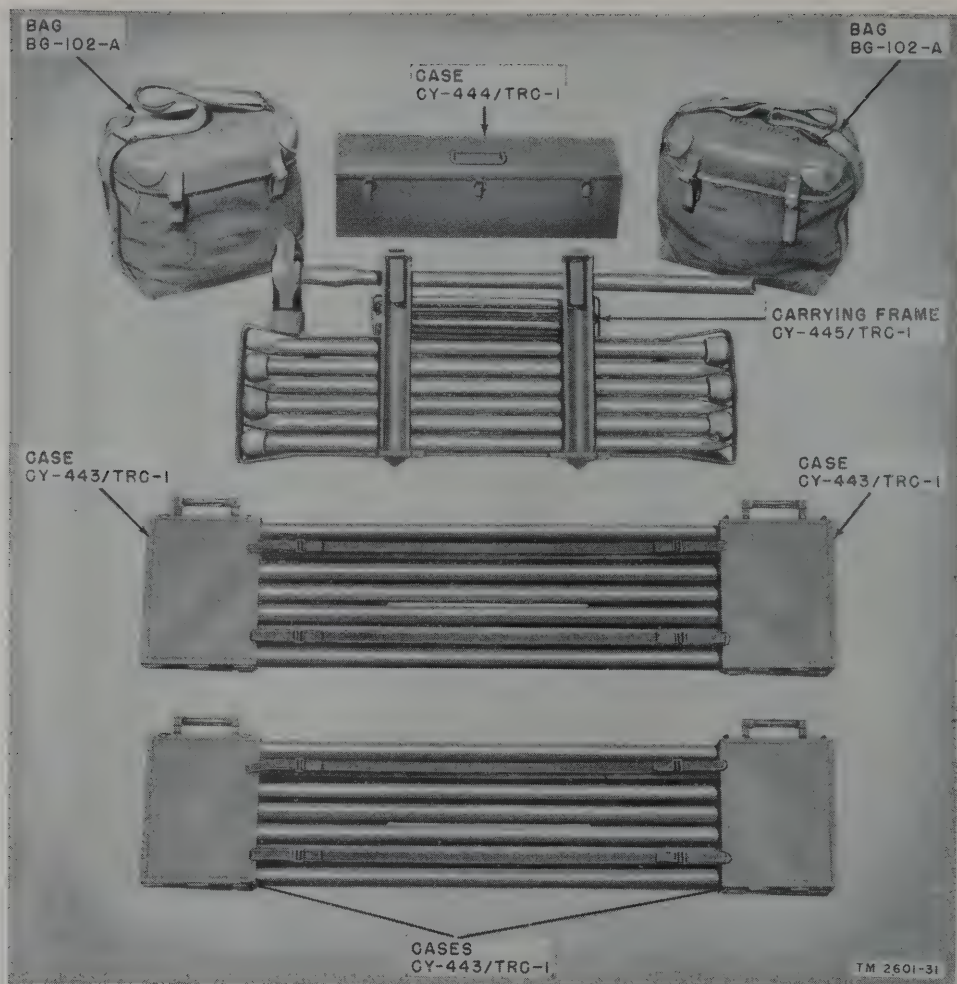

Figure 17. Antenna System AS-19E/TRC-1.
a. Antenna System AS-19(*)/TRC-1 (figs. 5 and 17) contains all the equipment necessary to erect a v-h-f directional antenna array in the field for use with Radio Receiver R-19(*)/TRC-1 or Radio Transmitter T-14(*)/TRC-1. It includes the antenna array, mast, and coaxial transmission line with all installation equipment and aids. The unlettered through D models of the antenna system are packed in Cases CY-29(*)/TRC-1 and CY-30(*)/TRC-1. Models E and F are packed in Case CY-444/TRC-1, Carrying Frame CY-445/TRC-1, four Cases CY-443/TRC-1, and two Bags BG-102-(*) (fig. 17). (Case CY-790 may replace Case CY-
h. CASE CY-443(*)/TRC-1. These are specially built units made to carry antenna mast sections used with the E and F models of Antenna System AS-19(*)/TRC-1. Two cases, fitted onto each end of seven mast sections and strapped together, form a package. Four cases CY-443(*)/TRC-1 are used with each antenna system, forming two packages containing fourteen mast sections (fig. 17).
i. CASE CY-444(*)/TRC-1. This case (figs. 17 and 40) contains the components of Antenna AS-20(*)/TRC-1 in the E and late F models of Antenna System AS-19(*)/TRC-1. The case is made of metal and has internal supports to hold the mast extensions and elements supports.
j. CARRYING FRAME CY-445(*)/TRC-1. This is a metal frame used to contain and carry six Stakes GP-108/U, five Stakes GP-2, and sledge Hammer HM-3. It is furnished with the E and F models of Antenna System AS-19(*)/TRC-1 (fig. 17).
k. BAGS BG-102-(*). These canvas bags are supplied with the E and F models of Antenna System AS-19(*)/TRC-1 to carry the small components of the antenna system. Carrying straps are attached to the bag. The bags have a height of 16 inches, a depth of 9 inches, and a length of 18 inches (fig. 17).